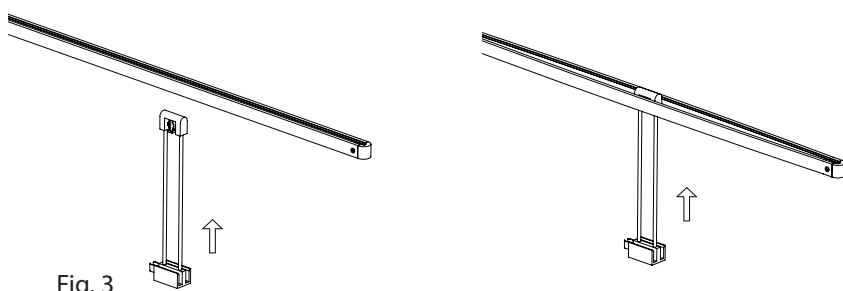

Fig. 3
1. Gently spread apart the Power Bar and insert the rods of the Perpendicular Power Bar Hanger through the Power Bar. (Fig. 3)